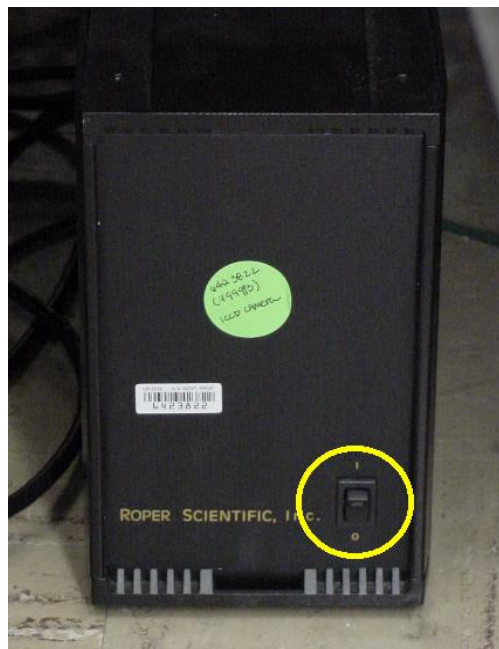

Figure 17: Picture of the pulser. The yellow circle indicates where the ON/OFF switch is located on the pulser. Currently, the Pulser is in the OFF position
- Turn on PTG-Pulser located underneath the table. (See Figure 17)
- After approximately 15 seconds, the following window should appear. (Figure 17)